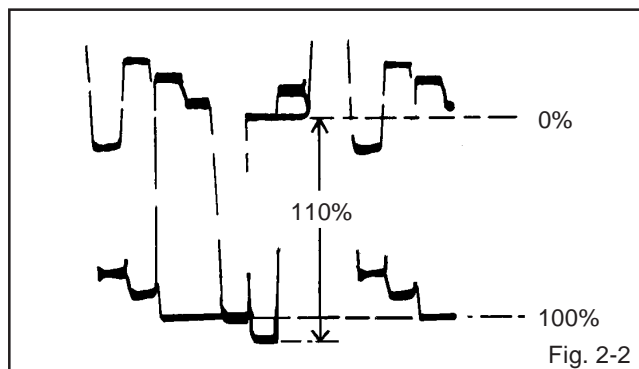

Fig. 2-2
7. Press the VOL. UP/DOWN button on the remote control until the red color level is adjusted to $110 \pm 10\%$ of the white level. (**Refer to Fig. 2-2**)